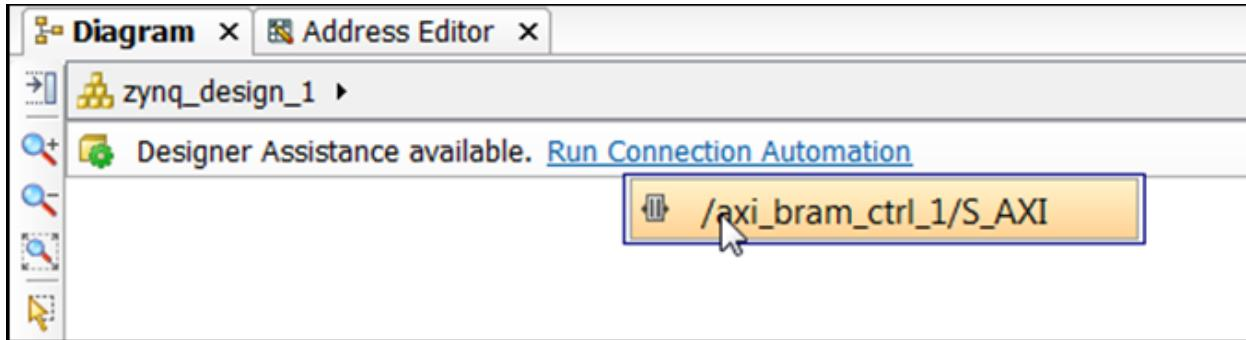

Figure 17: axi_bram_ctrl Selection
7. Click **Run Connection Automation** again, and select the remaining option `/axi_bram_ctrl_1/S_AXI` (Figure 17).